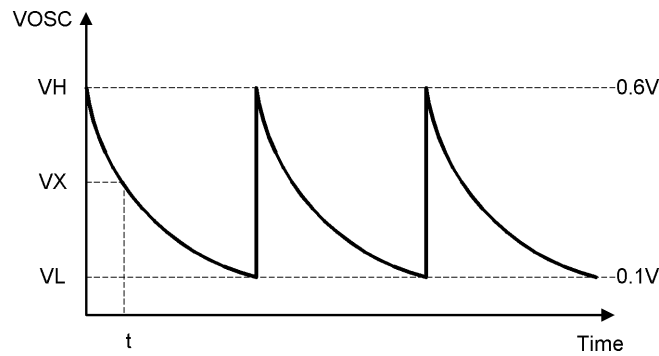

Figure 2 Oscillator Waveform
The oscillation frequency of a sawtooth waveform is determined by the timing capacitor (CT) and the timing resistor (RT) which are connected to the OSC pin. When the voltage of the OSC pin falls to 0.1V, the CT is rapidly charged to increase the voltage of the OSC pin instantaneously. When the voltage of the OSC pin reaches 0.6V, Charging stops, so that CT and RT are discharged to decrease the voltage of the OSC pin. The waveform of the OSC pin is shown as Figure 2.